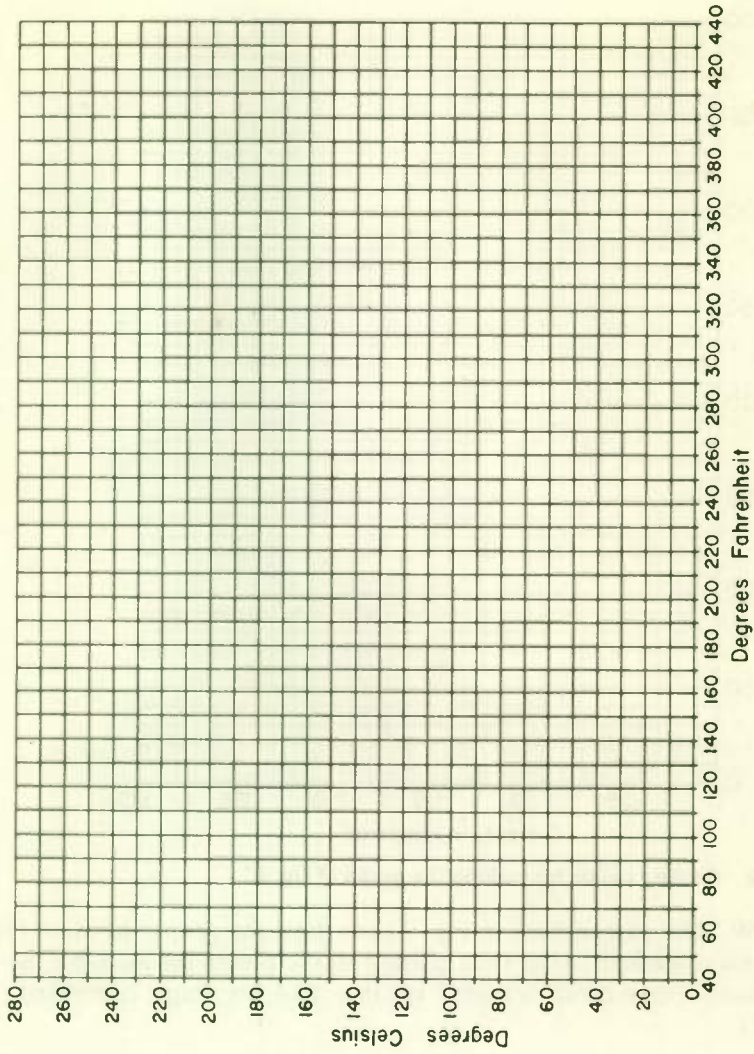
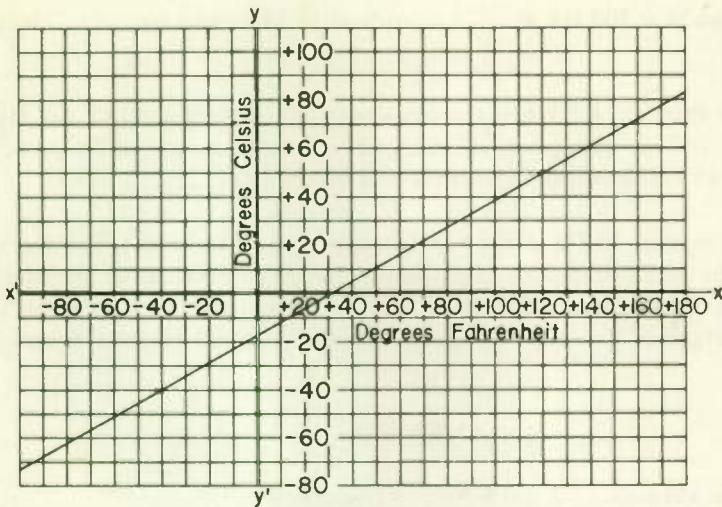

Fig. 3
Fig. 12 Graph for converting between degrees Celsius and degrees Fahrenheit for both positive and negative temperatures.
2. Use the formula $^{\circ}\text{C} = \frac{5}{9} (^{\circ}\text{F} - 32)$ to complete the following table and plot the graph on Fig. 3.
3 **GRAPHS WITH NEGATIVE VALUES . . .** Both positive and negative values are often involved in plotting or reading a graph. The trouble with the graph you plotted on Fig. 3 for converting between degrees Fahrenheit and degrees Celsius is that it will handle only positive temperature values. The graph of Fig. 12 handles both positive and negative temperature values. The horizontal and vertical reference coordinates $x' - x$ and $y' - y$ are usually called the x axis and the y axis, respectively. The point where the two axes cross each other is called the *origin*.
The origin is always zero in graphs displaying both positive and negative values. Positive scale values on the x axis are always to the right of the origin, and negative scale values are always to the left, as Fig. 12 shows. Positive scale values on the y axis are always above the origin and negative scale values below. Notice in Fig. 12 how all scale values increase with distance from the origin.
1. The scales of the graph in Fig. 12 (a) (*are*) (*are not*) linear because the values increase at an (b) _____ rate.
2. Use the graph of Fig. 12 to complete the following table: